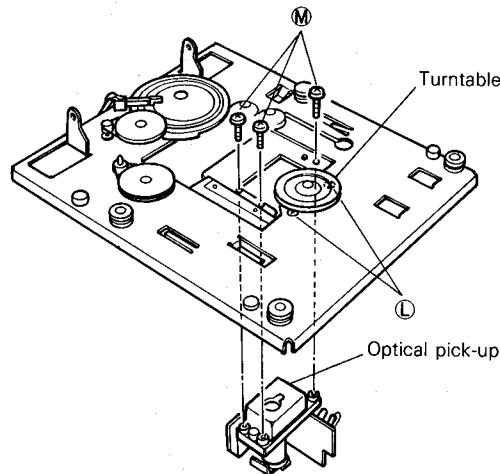

Fig. 8
Remove the connector (CN101 and CN102) connected to the Servo P. C. Board. (Fig. 8)
Remove the three screws located at (M) and the Optical Pick-up can be removed. (Fig. 8)
4. Removal of Spindle Motor (Fig. 8)